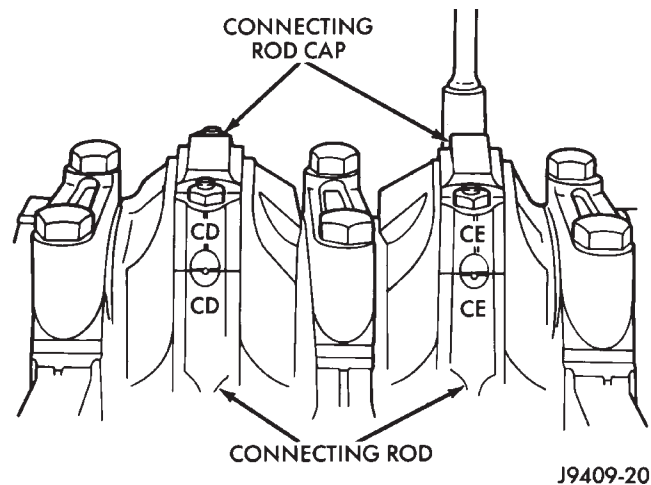

Fig. 63 Stamped Connecting Rods and Caps
- (7) Drain the engine oil.
- (8) Remove the oil pan and gasket.
- (9) Remove the connecting rod bearing caps and inserts. Mark the caps and rods with the cylinder bore location. The connecting rods and caps are stamped with a two letter combination (Fig. 63).